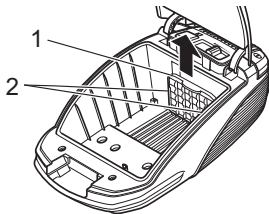

Fig. 24
2. Pull the filter holder together with the protective motor filter (Fig. 24/1) up and out of the locking rails (Fig. 24/2).